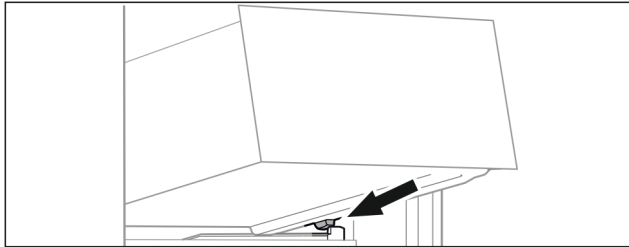

Fig. 92
- Place drawer at an angle behind the stoppers on the moulded rib. (see Fig. 92)